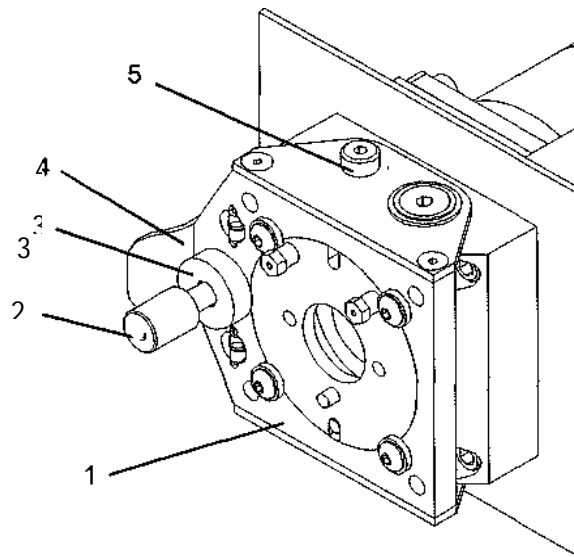

Figure 5.2 Displacement Adjustment Mechanism
**5.2.2 Displacement Adjustment (Figure 5.2)**
If this option is used, verify the fixed displacement locking washers are not under the head of the two shoulder screws (Figure 5.2 Item 5) but, have been removed to allow the Pump Module displacement adjustment mechanism to pivot freely between the two positions.
**5.2.4 Fixed Displacement (Figure 5.2)**